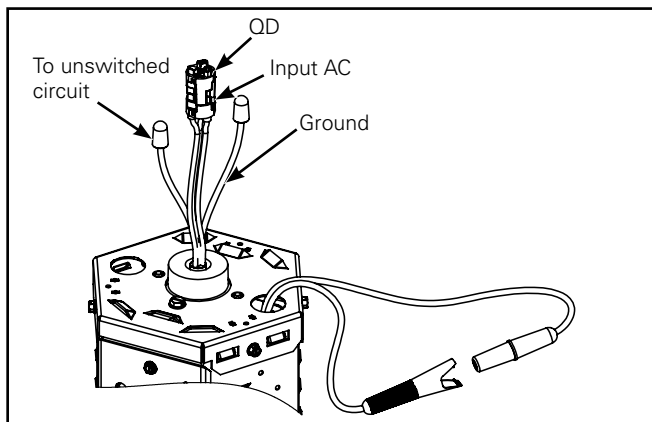

Figure 2.
3. Wire input AC to the fixture, including the unswitched circuit for the battery pack. Wire according to code. (Figure 2).